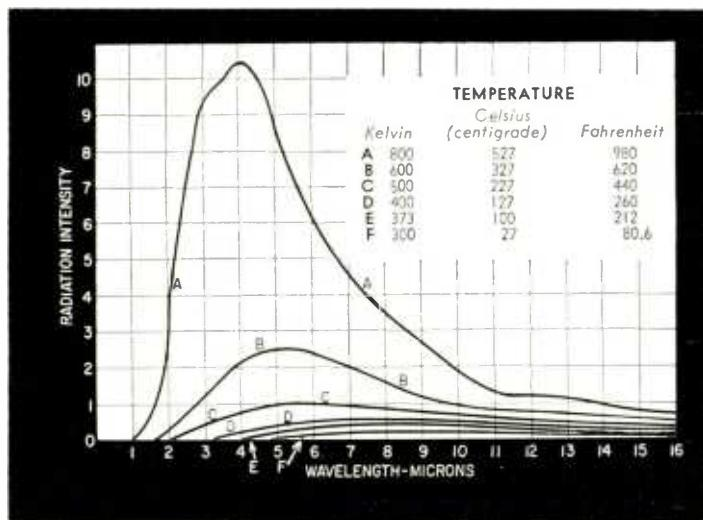

Fig. 2—Radiation curves for black bodies of different temperatures.
energy from a black body is expressed by the Stefan-Boltzman law. The distribution of the radiant energy is described by Wien's displacement law. Black-body radiators (perfect emitters which obey these laws) have the spectral distribution shown in Fig. 2. The emissivity of a black body is unity (1). Other bodies (gray bodies) which do not have this perfect quality have emissivities less than 1. Gray bodies obey the same theoretical laws as black bodies, but energy radiated is proportionately less.